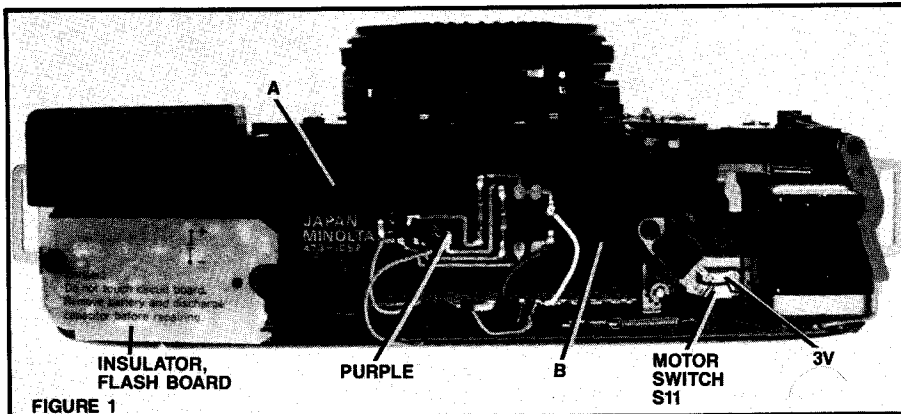

FIGURE 1
- Fig. 1— top view, covers removed
2. Check horizontal and vertical parallax by using a 34" x 22½" test target. Position the camera 1m from the target. Release and hold open the shutter. View the target with a ground glass at the focal plane. Shift the camera until the target corners are within the focal-plane aperture. Then view the target through the finder; the target corners should be within the frame-line corners. Adjust by shifting the viewfinder mask. Adjustment A, Fig. 1, shifts the frame lines vertically. The horizontal-shift adjustment is under the circuit board at the top of the AF module (directly behind the vertical adjustment).
c. Release the shutter. The slider brush should stop at position 1, Fig. 10. If the slider brush goes past position 1, the AF is focusing on the wall rather than on the bar target. Adjust by shifting the viewfinder mask horizontally (the adjustment behind adjustment A in Fig. 1).
4. Check the AF accuracy by observing the slider position after releasing the shutter at different target distances. If the slider doesn't stop at the proper position according to the target distance, adjust B in Fig. 1. The following chart shows the proper slider position according to the target distance:
Precautions: After removing the top cover, discharge the flash capacitor between the two terminals of the flash-circuit board (indicated on the insulator, Fig. 1). Use a discharging resistor (100 ohm, 1 watt).